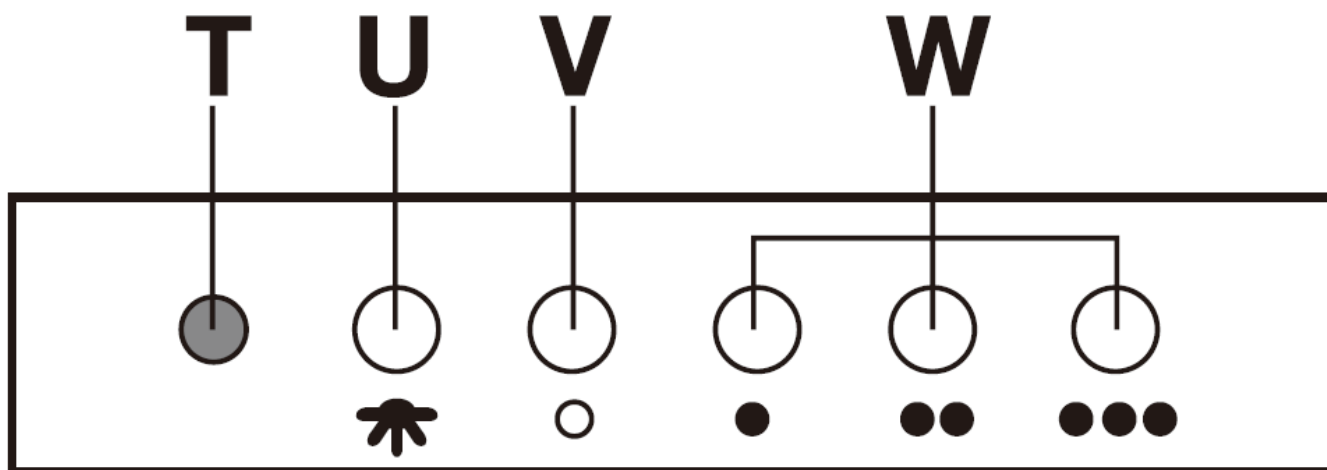

Fig. 12
- The control switches are located on the front panel of the unit. See Fig. 12 below.